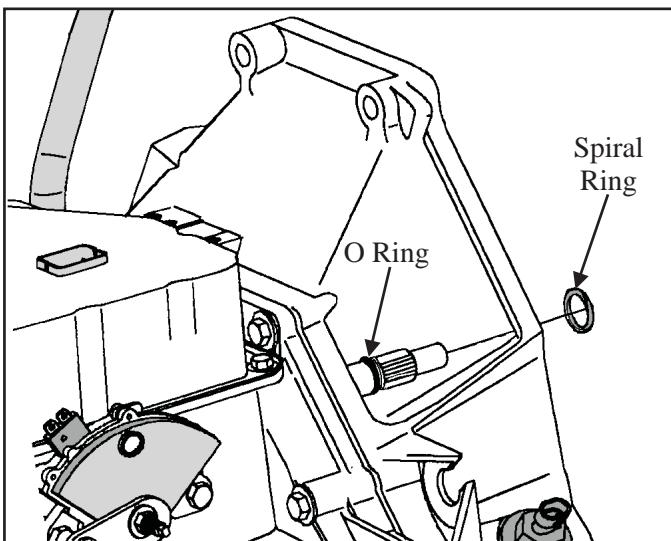

Figure 55
2. Remove the O ring from behind the retaining spiral ring. DO NOT REMOVE THE SPIRAL RING as damage to the ring may occur (See Figures 55 and 56).